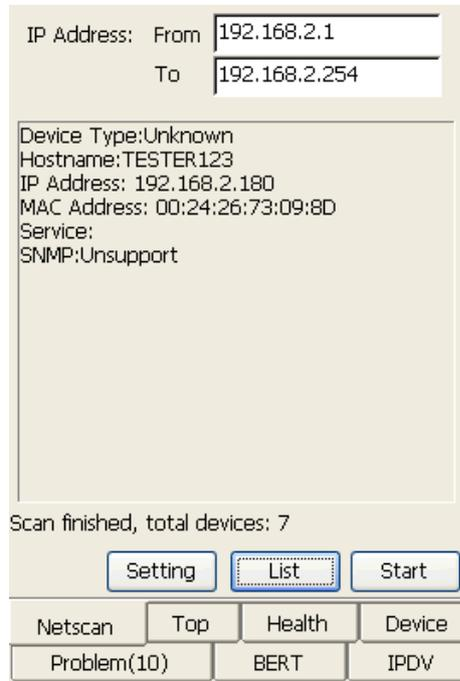

Figure 5.12.3 Netscan Detail
4. **[Details]:** Browse the details, including: equipment type, host name, IP address, MAC address, service and SNMP, as is shown in figure 5.12.3.